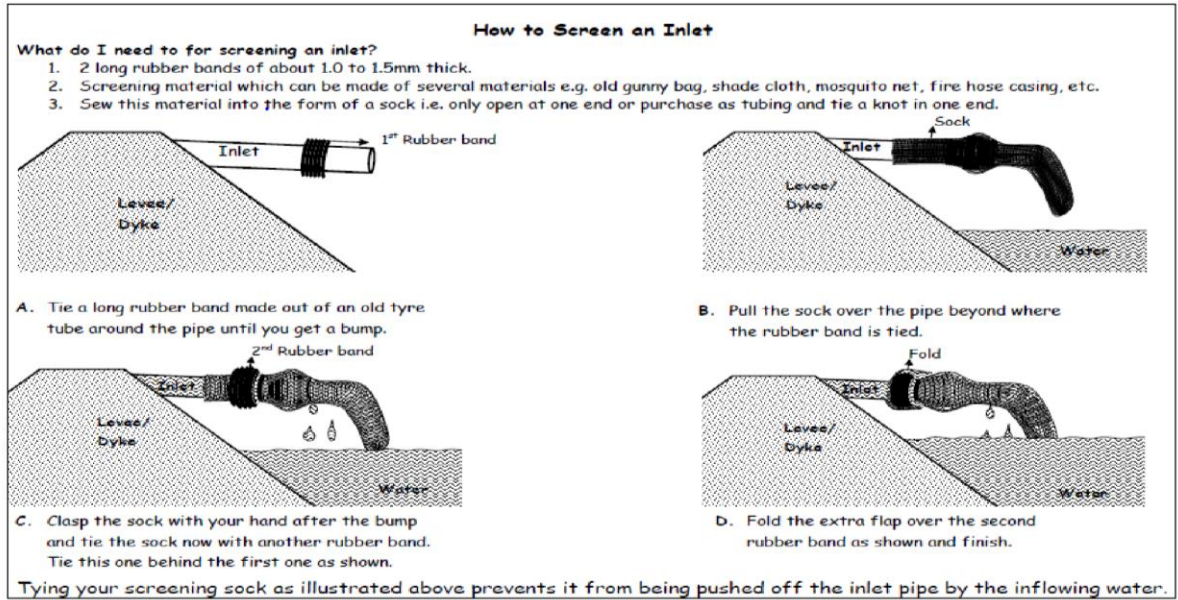
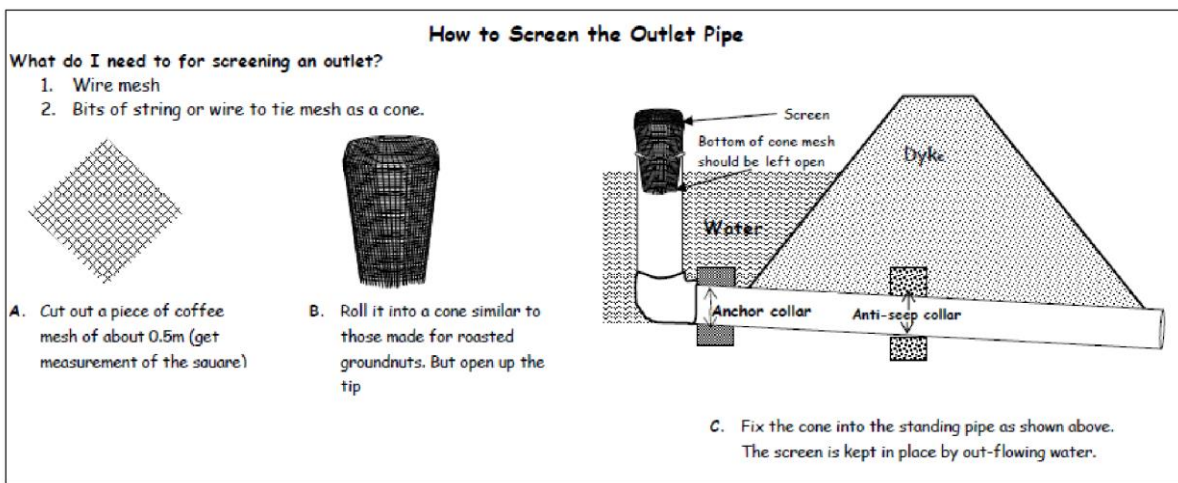

Figure 3-5: How to Screen the Inlet Pipe
Figure 3-6: How to Screen the Outlet Pipe
- ii. Place the inlet at a point nearest to the water source (Figure 3-5). This will usually be at or near the shallow end of the pond.
Screens must be placed on the inlet (Figure 3-5), outlet and overflow pipes to prevent fish from escaping from the pond and to stop other fish and unwanted organisms from entering the pond (Figure 3-6).